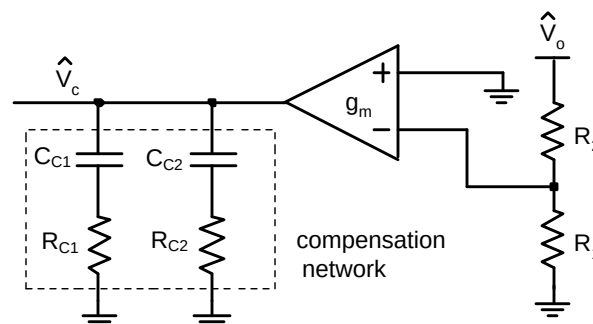

Figure 19. Compensation Network
- R_1 and R_2 are the feedback resistors as shown in Figure 19
The compensation network (Figure 19) will also introduce a low frequency pole which will be close to 0Hz.
A second pole should also be placed at f_z . This pole can be created with a single capacitor C_{c2} and a shorted R_{c2} (see Figure 19). The minimum value for this capacitor can be calculated by: